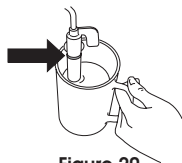

Figure 20
9. Make sure not to immerse the line on the milk frother (indicated by the arrow in Figure 20). Turn the steam control dial half a turn counter-clockwise until it stops (Figure 7). Use caution, steam is hot!